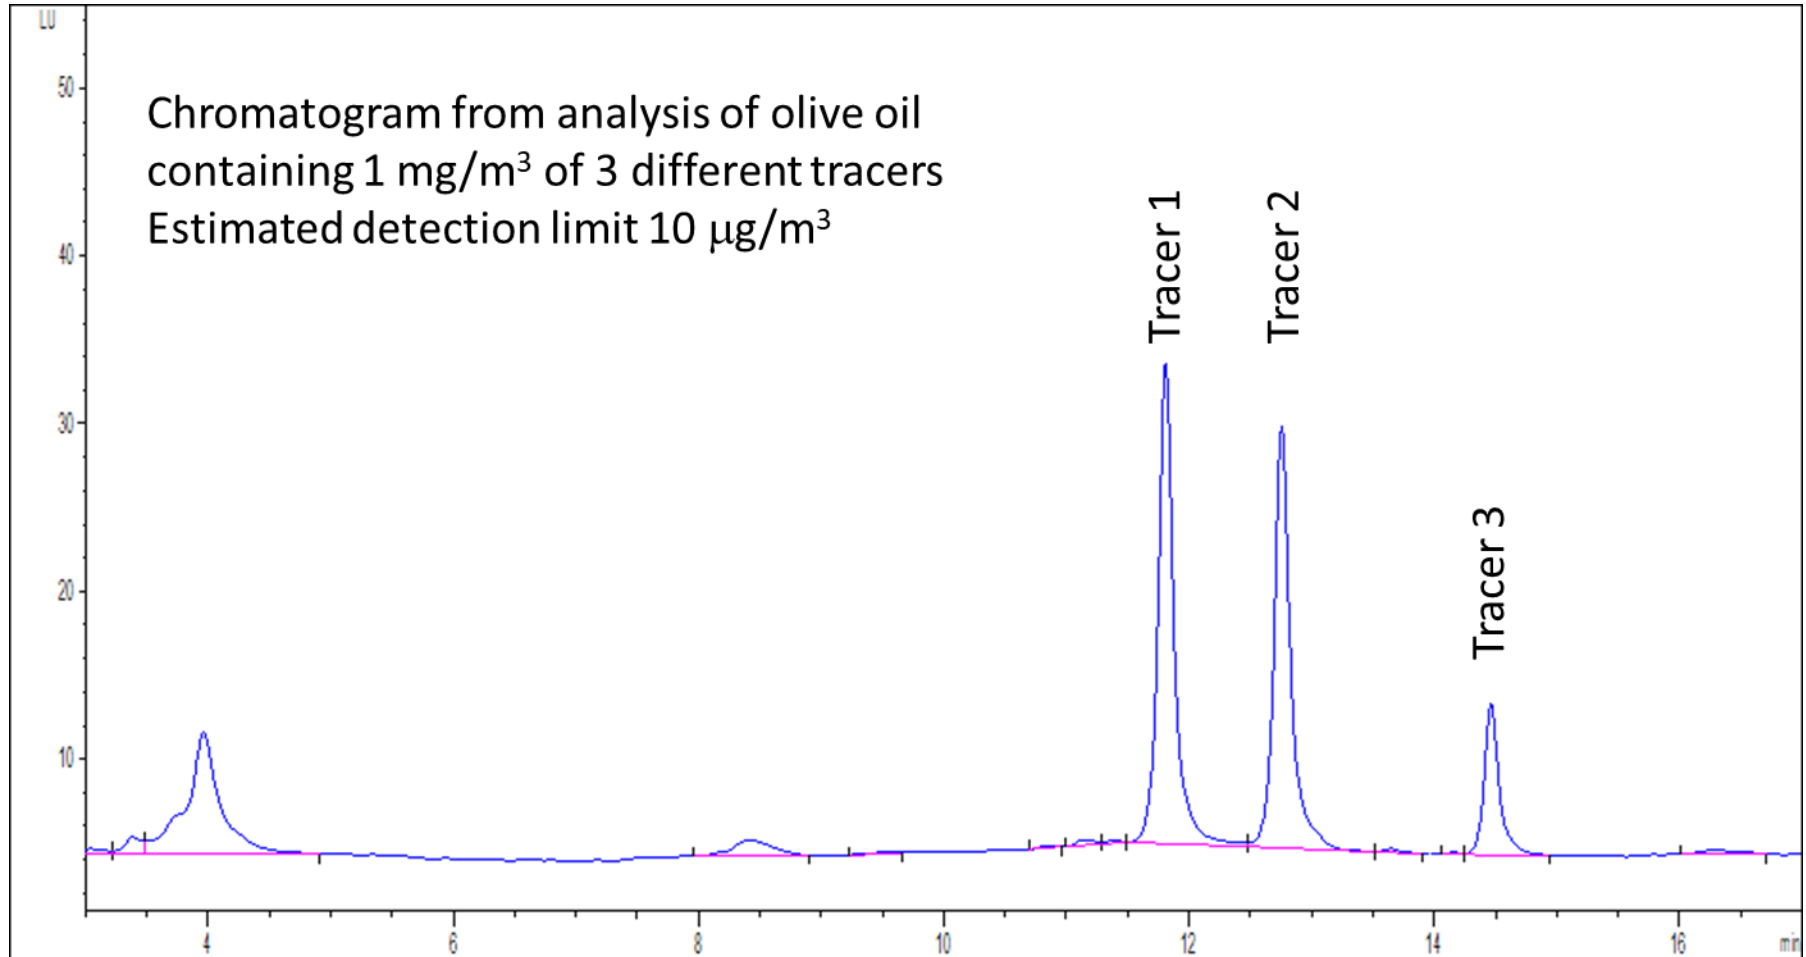

Figure 1
- Figure 1 shows a plot from analysis of 3 different tracers in olive oil at a concentration of 1 mg/m^3